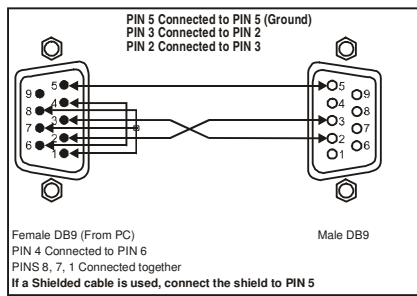

Figure 7: Connecting a PC without using a Null-modem Adapter
- Connect the RS-232 DB9 port on your PC to the RS-232 DB9 rear panel port on the Master **VP-503xl/VP-504xl** unit, as Figure 7 illustrates